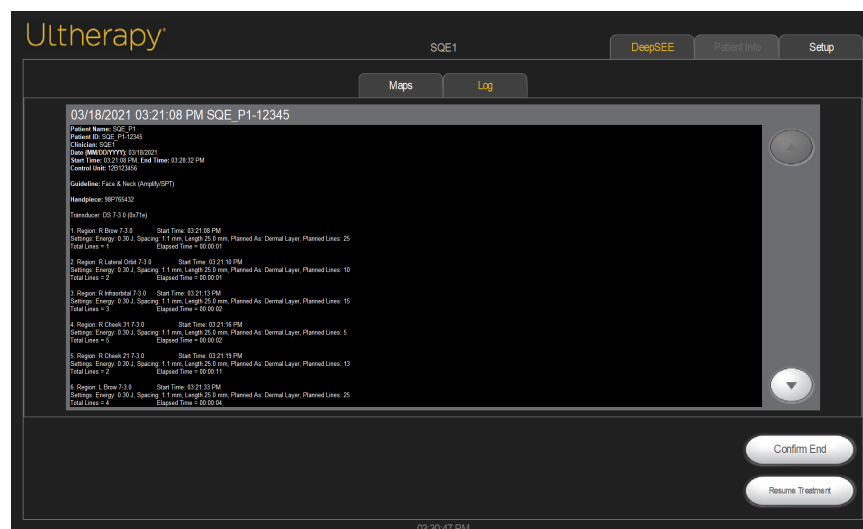

Figure 7.18, Log display in Treatment Summary Screen
8. In the **Log** display, specific information about the treatment line count delivered per transducer per region and treatment time will appear as shown in Figure 7.18.